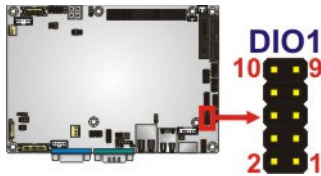

Figure 3-5: Digital I/O Connector Locations
- CN Location:** See **Figure 3-5**